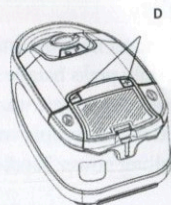

Fig. 4.3
C. Variable Suction Control (Fig. 4.3) The variable suction control, (D), is located on the top rear of the canister. Push the (-), button to reduce the suction and to clean lightly soiled areas or delicate fabrics. Push the, (+), button for maximum cleaning power in heavily soiled areas.